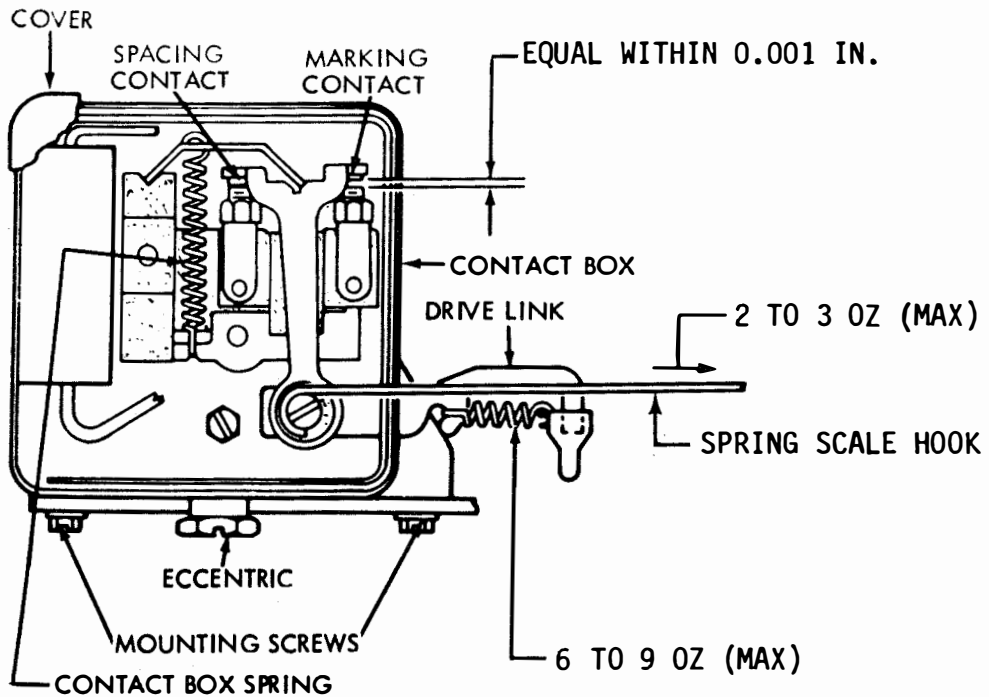

Figure 6-134. Contact Box Clearance, Contact Box Spring, and Contact Box Drive Link Spring
(a) Refer to figure 6-134.
(3) Contact Box Drive Link Spring. Adjust as follows:
- (a) Refer to figure 6-134.
(4) Signal Contact Clearance. Adjust as follows: